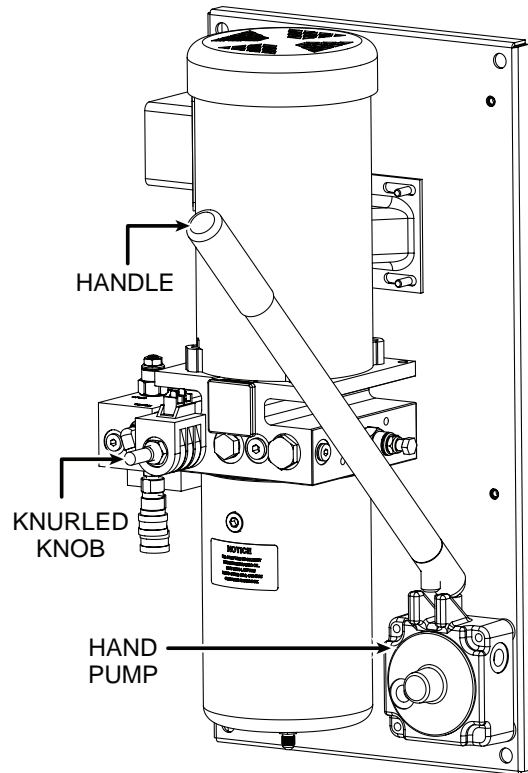

Figure 34. Hydraulic Hand Pump Open
1. Remove the hydraulics cover panel from the pivot post. See Figure 34.
1. Remove the cover panel from the hydraulics section of the pivot post. See Figure 34.